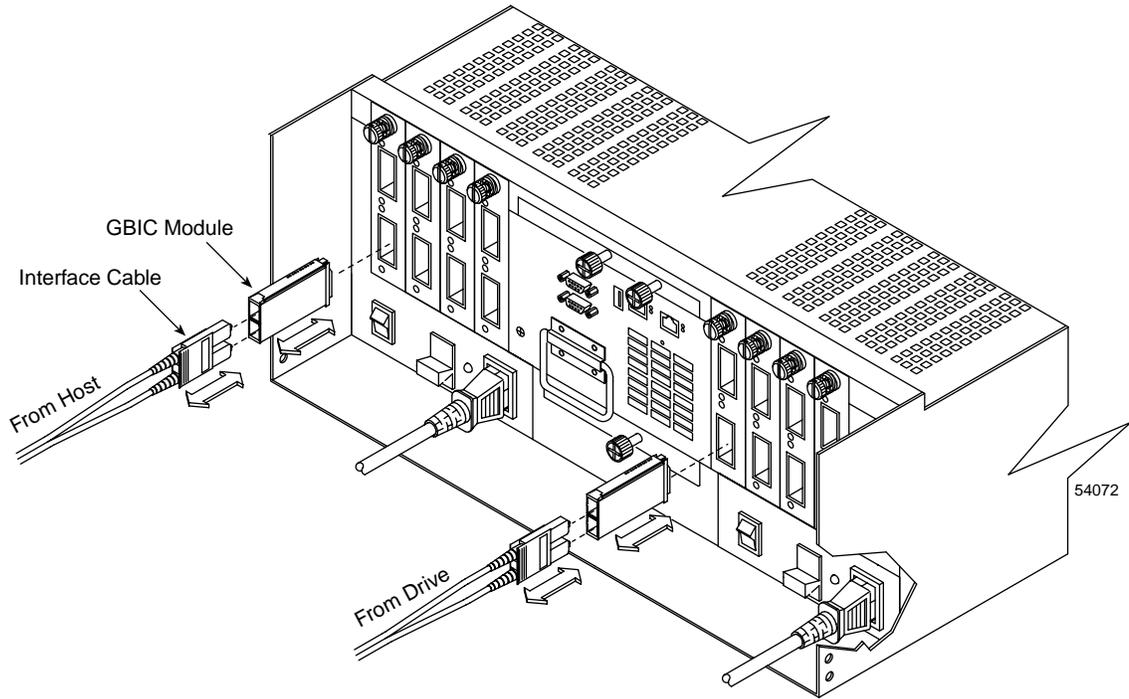

Figure 4-12 Removing and Installing a GBIC Module
3. Remove the interface cables from the failed GBIC module (Figure 4-12).
4. Remove the failed GBIC module from its minihub slot (Figure 4-12).
4. Remove the interface cables from the Fibre Channel connections on the failed minihub (Figure 4-12 on page 60).
5. Remove each optical GBIC module from the minihub slot (Figure 4-12 on page 60).